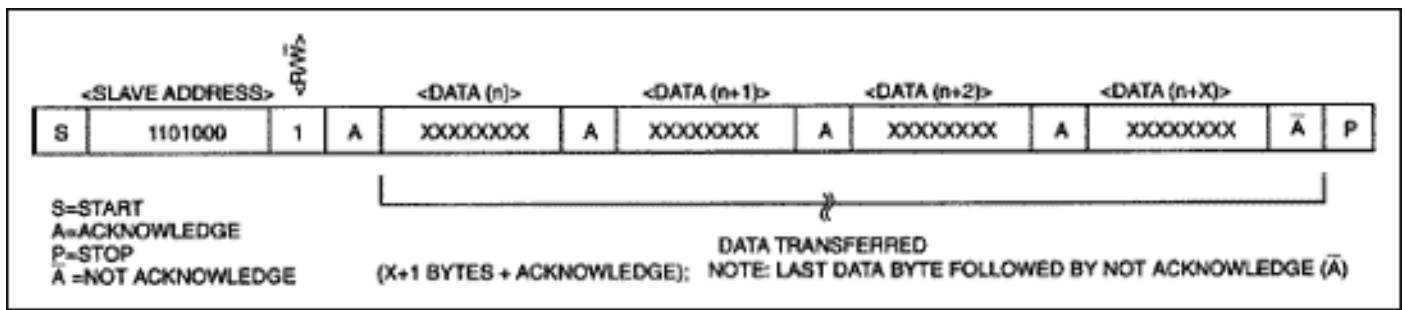

Figure 4. Data read—slave transmitter mode.
2. **Slave transmitter mode (DS1307 read mode):** The first byte is received and handled as in the slave receiver mode. However, in this mode, the direction bit will indicate that the transfer direction is reversed. Serial data is transmitted on SDA by the DS1307 while the serial clock is input on SCL. START and STOP conditions are recognized as the beginning and end of a serial transfer (See **Figure 4**). The address byte is the first byte received after the start condition is generated by the master. The address byte contains the 7-bit DS1307 address, which is 1101000, followed by the direction bit (R/active-low W), which for a read is a 1. After receiving and decoding the address byte, the DS1307 inputs an acknowledge on the SDA line. The DS1307 then begins to transmit data starting with the register address pointed to by the register pointer. If the register pointer is not written to before the initiation of a read mode, the first address that is read is the last one stored in the register pointer. The DS1307 must be sent a Not-Acknowledge bit by the master to terminate a read.